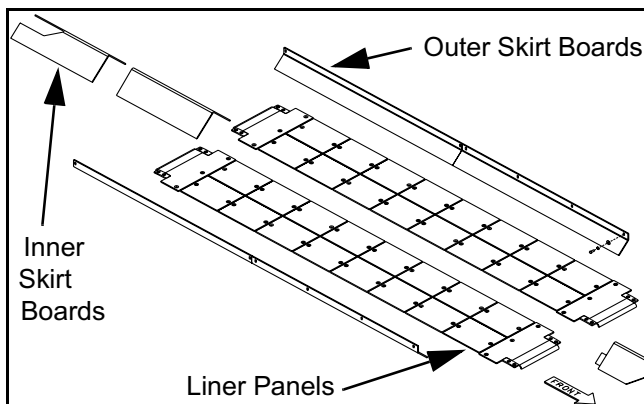

Figure 6 - 28 Replacing hopper liners
- 3) Remove outer front and center front skirt boards. (Figure 6 - 28)